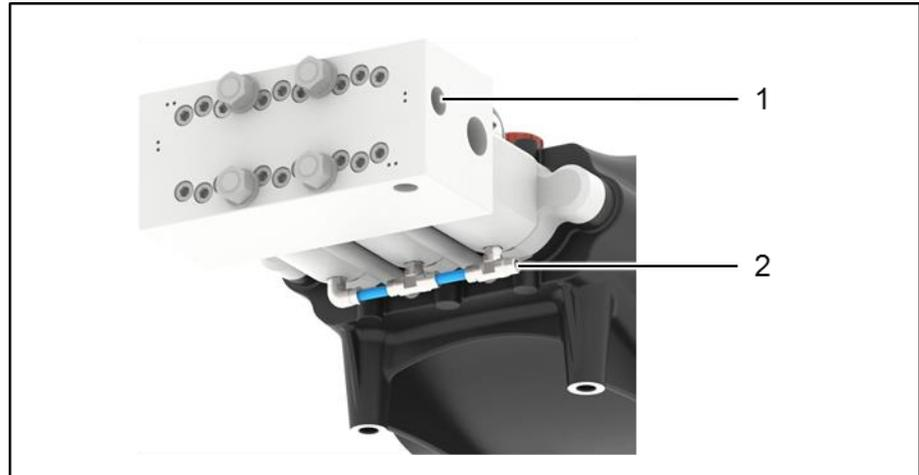

Figure 19: Drain the pump
5. To drain the inlet pressure block, remove the drain plug (Figure 19: 1).
7. Detach all return lines from (of the overflow valve, sealing water system (Figure 19: 2) and let the pipes / hoses run empty.
8. Screw the drain plug (Figure 19: 1) back onto the inlet pressure block.
13. Fit all return lines (of the overflow valve, sealing water system (Figure 19: 2)) back at the appropriate points.